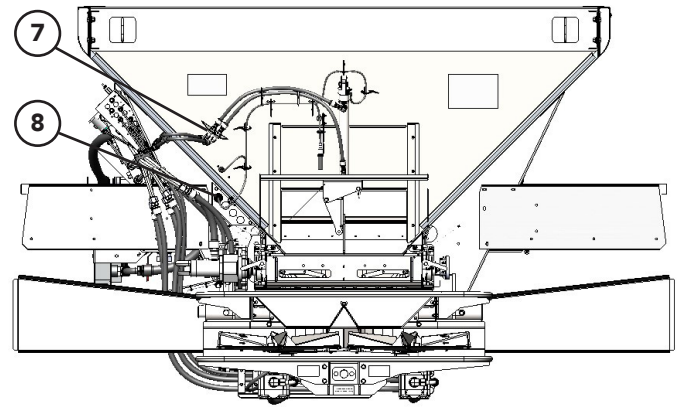

Figure 1B
4. Figure 1B - Disconnect Feedgate Hydraulic Hoses (7) and Electrical Harness (8).